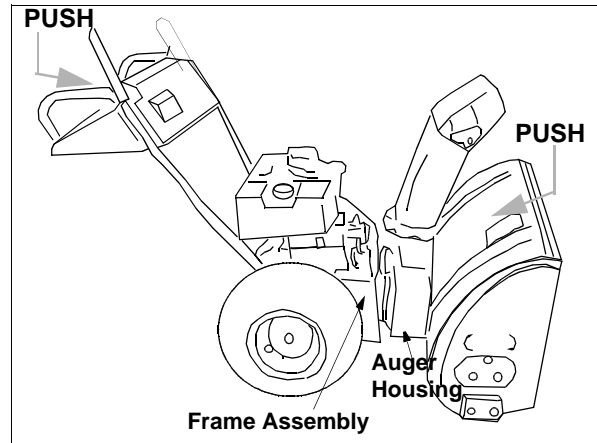

Figure 28
- While lifting up on the handles, bring the frame assembly close to the auger housing, and place the two belts on the front and rear engine pulleys. See Figure 28.